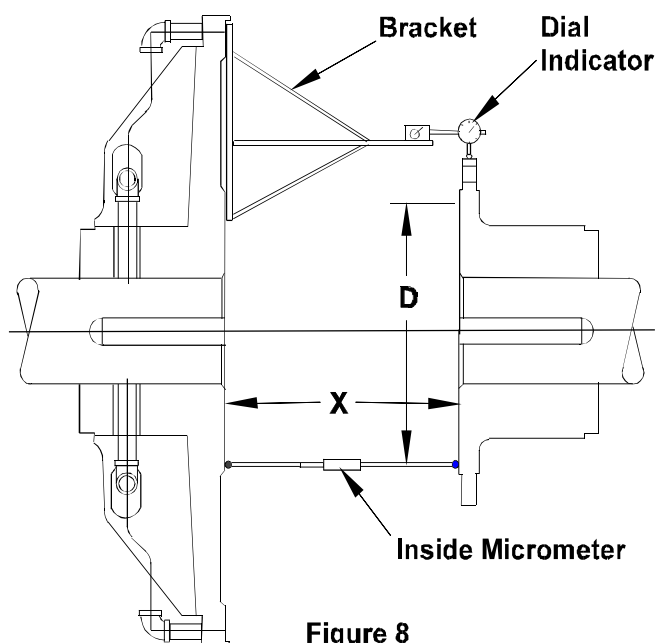

Figure 8
TABLE 2 - “X” DIMENSIONS (FIG. 8)
Not to be exceed 0.0005 inch per inch (.0005mm/mm) diameter at which readings are taken (“D” on Fig. 8).
- 2.4.1 Foundations must be set so distance “X”, shown in Figure 8, is established. If the clutch is mounted on a shaft having plain bearings, make sure the shaft is centered within the bearings when establishing the “X” dimension. Refer to Table 2 for appropriate “X” dimensions.
- 2.4.2. Fabricate a rigid bracket for supporting a dial indicator and attach to the spider. See Figure 8.